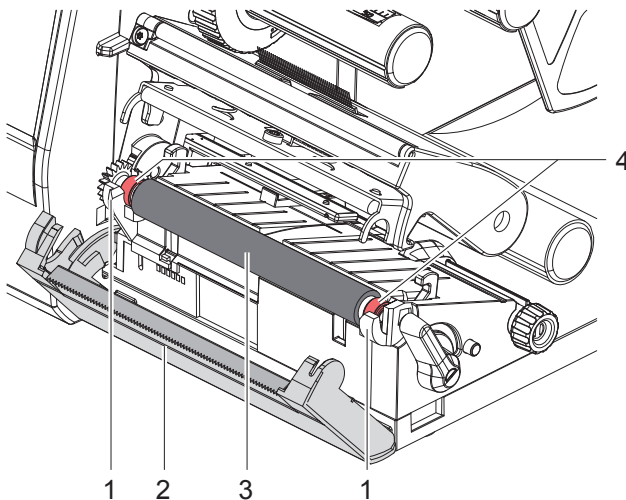

Figure 15 Print roller
After printing, a label can be torn off manually using the tear off plate (2) Figure 15.